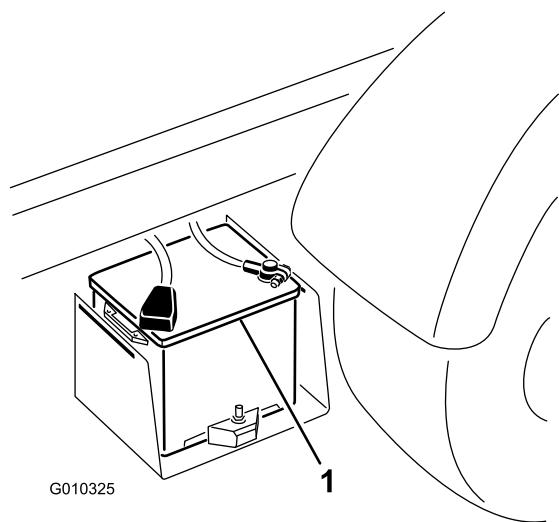

Figure 41
2. Connect a jumper cable between the positive posts of the 2 batteries (Figure 41).